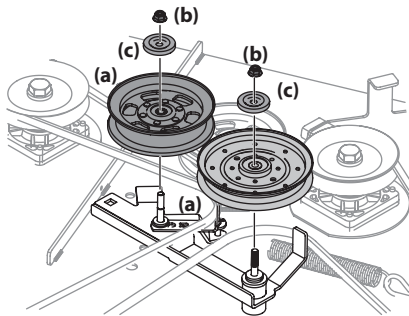

Figure 4-20
3. Remove the two idler pulleys (a) by removing the flange lock nuts (b) and pulley caps (c) that secure them to the deck and the idler arm. See Figure 4-20. Do not lose any of the hardware when removing the flange lock nuts (b).
6. Place the belt around the idler pulleys removed in step 3 with the "V" side facing in. Once in place, reinstall all the hardware and tighten the flange lock nut to secure the assembly. See Figure 4-20.